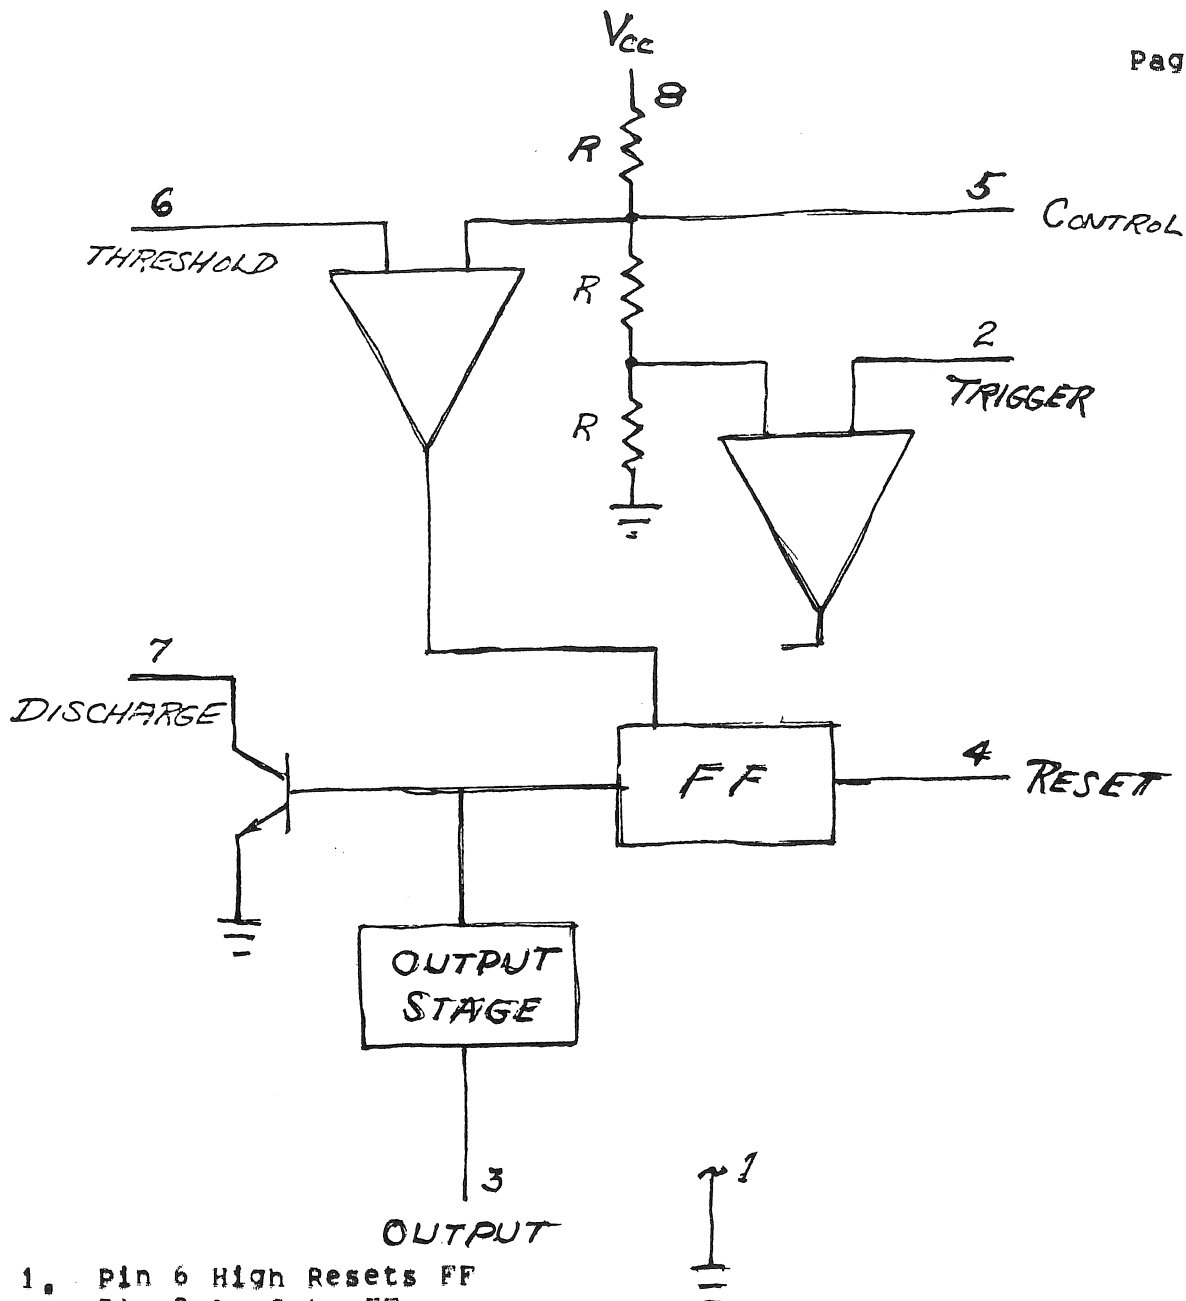

FIGURE 3-5
3.4.2 The 555 Timer (Refer to Figure 3-5)
The 555 Timer is located within the Clock logic. Because the 555 IC Timer performs various functions within the H777, a brief description of its operation is presented. The device, as used here, is an 8-pin DIP (dual inline package). Several of its characteristics are listed along with an internal block diagram in Figure 3-5.